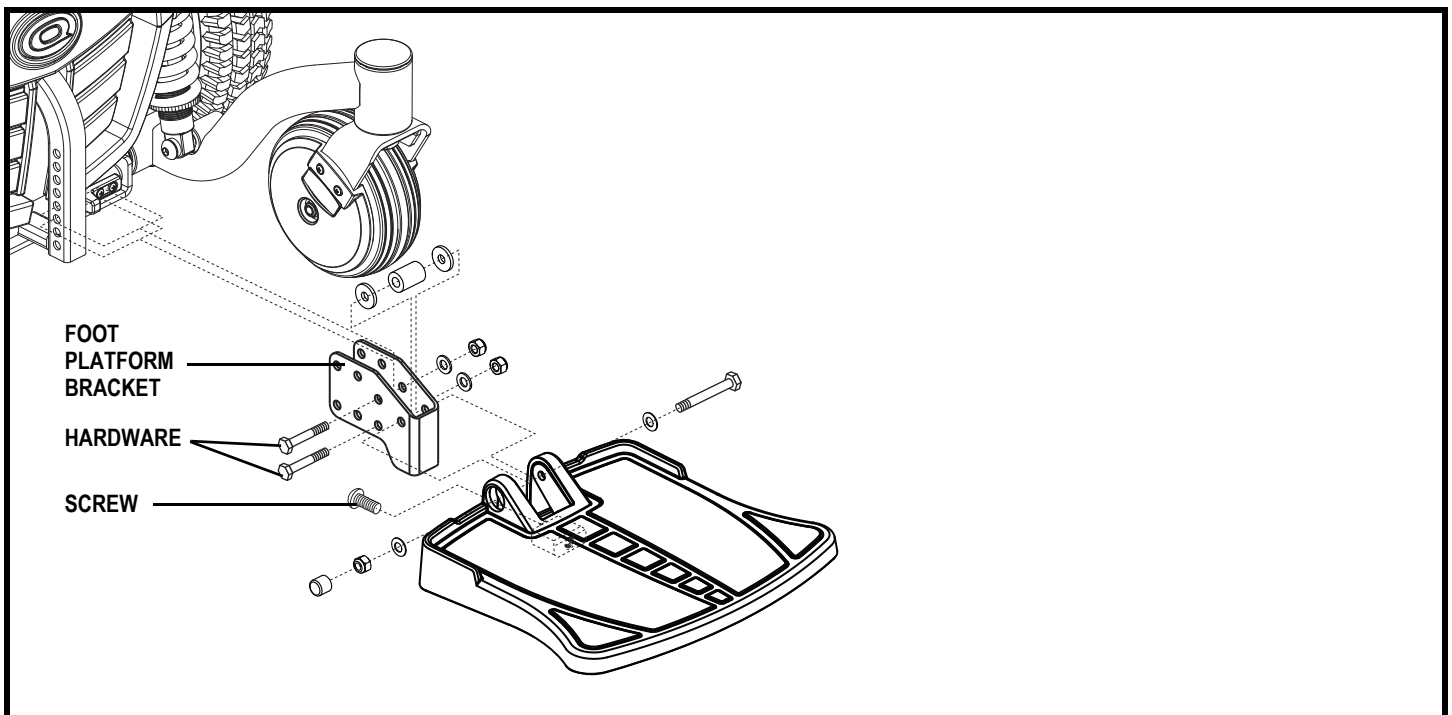

Figure 17. Foot Platform Adjustment
1. Remove the hardware from the foot platform bracket. See figure 17.
1. Flip up the foot platform and locate the screw. See figure 17.